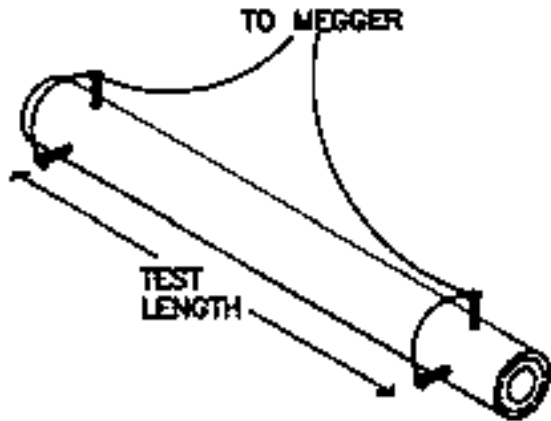

Figure 6-2 - Nail or “Pot Room” Test
3. Pierce sample ends with clean nails, as shown in Fig. 6-2.
4. Connect nails to 1000-volt DC power source and megohm meter or 1000 volt "megger" as shown in Fig. 6-2.
6. Measure "test length" as shown in Fig. 6-2.